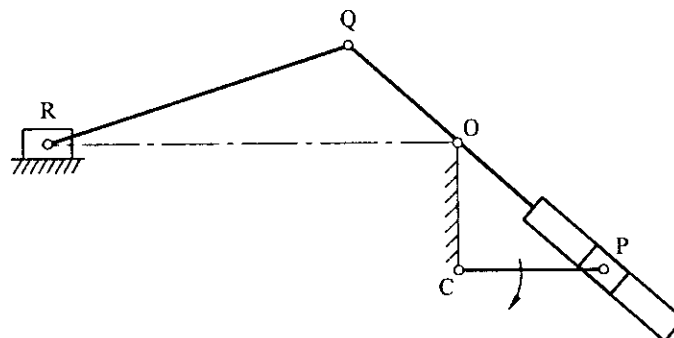

Fig. 3.39
8. The Whitworth quick return motion mechanism is shown in fig. 3.39. The distance between fixed centers O and C is 40 mm, the driving link CP is 125 mm long, the slotted link OQ is 100 mm long and the connecting link QR is 375 mm long. The pin R is attached to the ram which carries a tool box and reciprocates along a line passing through O and is perpendicular to OC. If CP rotates at 200 rpm, find the velocity and acceleration of R. CP is perpendicular to OC. (VTU, Jan. 2006)